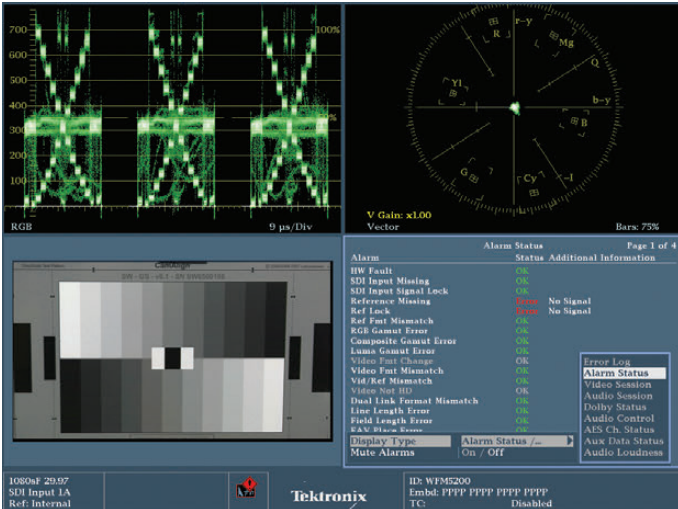

Figure 6-7. The steps 14-16 of “Creating a Preset” end with recalling and editing the options for the Status display.
16. To customize the Status display, press and hold the STATUS button for 2 seconds and use the arrow keys and General dial to choose your menu selections. Choose Display Type and use the right arrow to highlight your choices. Then, using the General Dial or up and down arrow keys, choose Alarm Status from the list. (You may choose Video Session instead, Figure 6-7.)